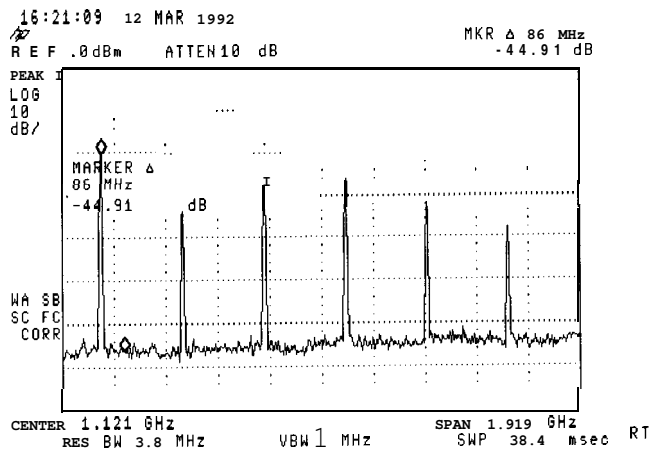

Figure 3-14. Using the Marker to Peak/Peak Function
5. The MARKER →PK-PK softkey can be used to find and display the frequency and amplitude difference between the highest- and lowest-amplitude signals. To use this automatic function, press **(MKR→)**, More 1 of 2, **MARKER →PK-PK**. See Figure 3-14.